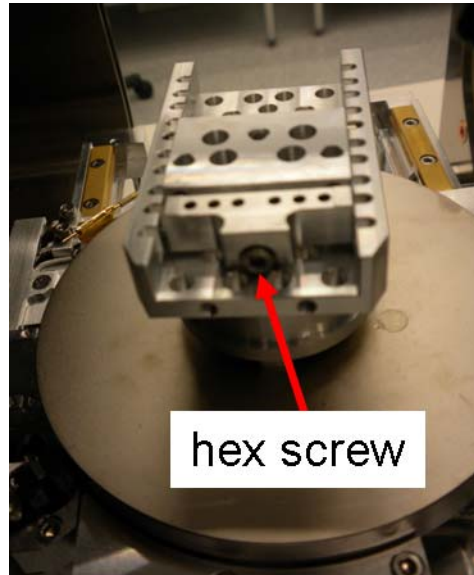

Figure 4. Hex screw that holds stub holder in place. You do not need to tighten this screw.
- The holder has another larger hex screw (opposite to the stub setscrew, see figure 4). This needs to be always tight (you should not need to tighten it, it uses a different wrench). In case it is loose, please call Fernando or Aaron.